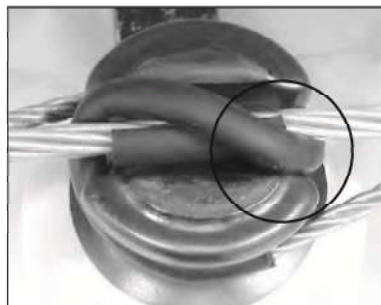

Figure 3
4. The top groove of the insulator can cause installation difficulties of top ties when its diameter is at the minimum ANSI designation. This is especially troublesome when installing the WRAPLOCK® Tie. Figure 3 illustrates the application on a C-neck insulator on 1/0 ACSR 6/1 conductor.